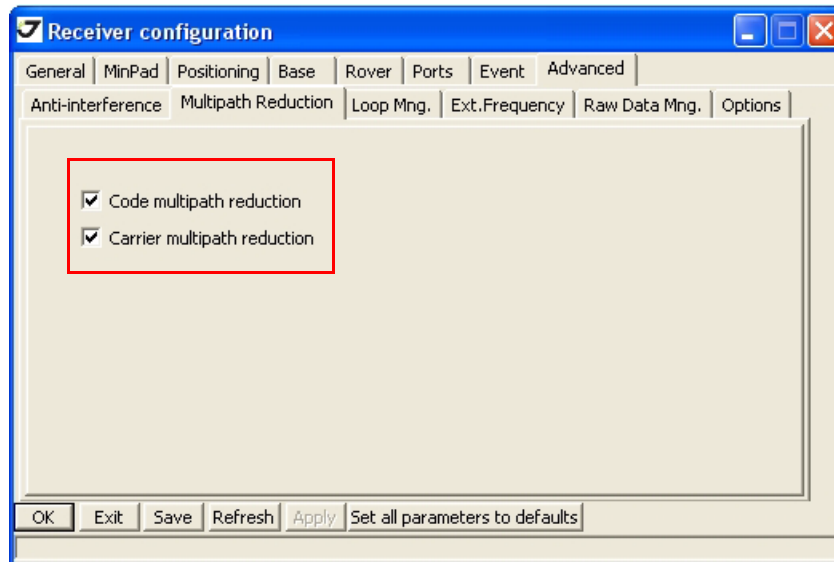

Figure 3-8. Configure Multipath Parameters
10. Click the *Advanced* tab and then the *Multipath* tab. Set the following parameters and click *Apply* (Figure 3-8 on page 37).